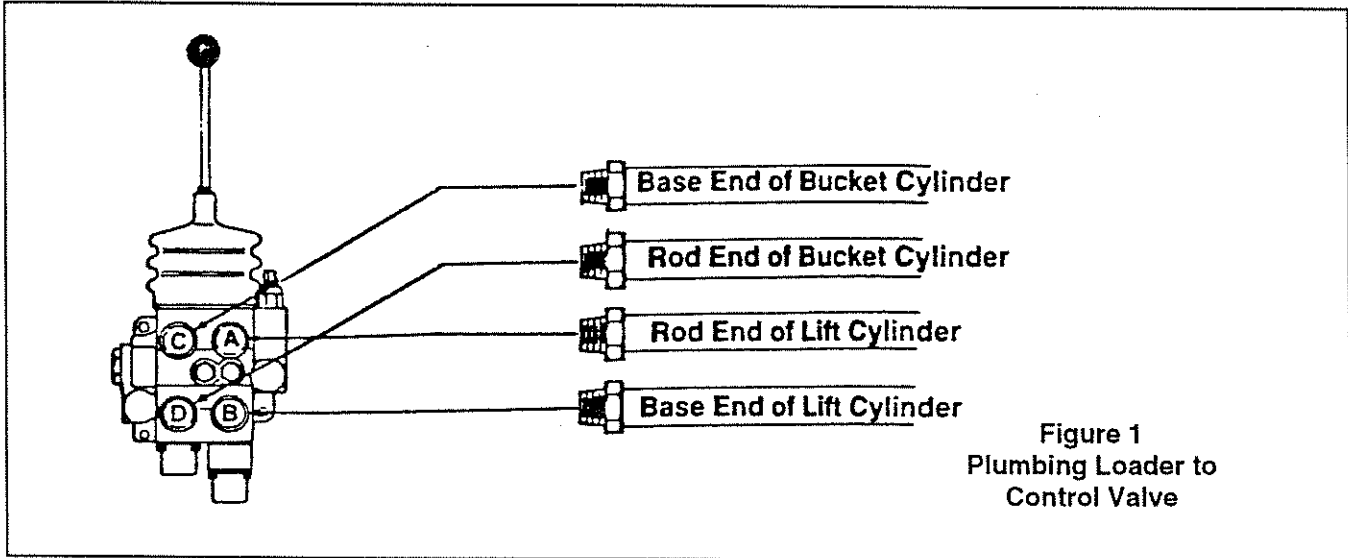

Figure 1
PLUMBING LOADER TO CONTROL VALVE (Figures 1 & 2)
1. Install 7/8 x 1/2 NPT 45° elbow fittings (4) to working ports of valve (1). Install 1/2 NPTF x 1/2 NPSM adapter fittings (10) to 45° elbow fittings (4). Install 1/2 female couplers (5) to each adapter fitting (10). Install one of each colored spiral bands (12) to female couplers.
2. Install 3/8 x 130 hoses (13) onto boom oil line tubes. Install and tighten hose fittings one at a time from bottom oil line up. Loosening closest oil line clamp will ease installation. Install male couplers (11) to free ends of hoses (13).
3. Connect hoses from boom oil lines to female quick couplers on control valve as shown (Figures 1 & 2). Top hose (Base of Bucket Cylinder) to port "C", second from top hose (Rod end of Bucket Cylinder) to port "D", third from top hose (Rod end of Lift Cylinder) to Port "A" and bottom hose (Base of Lift Cylinder) to port "B". Install colored spiral bands (12) onto male couplers (11) to match colors on female quick couplers (5).
PLUMBING LOADER TO CONTROL VALVE (Continued) (Figures 1 & 2)